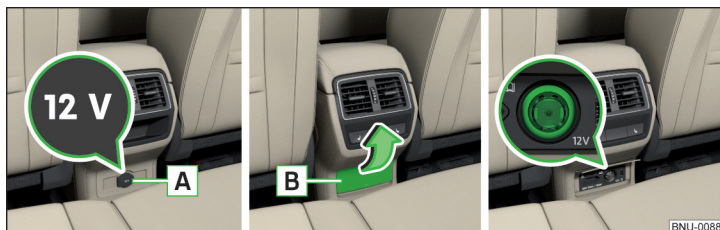

Fig. 127 Cover of the 12 volt outlet / Open the cover of the 12 volt outlet
- ▶ To use, open the cover **A** or fold open the cover **B** in the direction of arrow » Fig. 127.